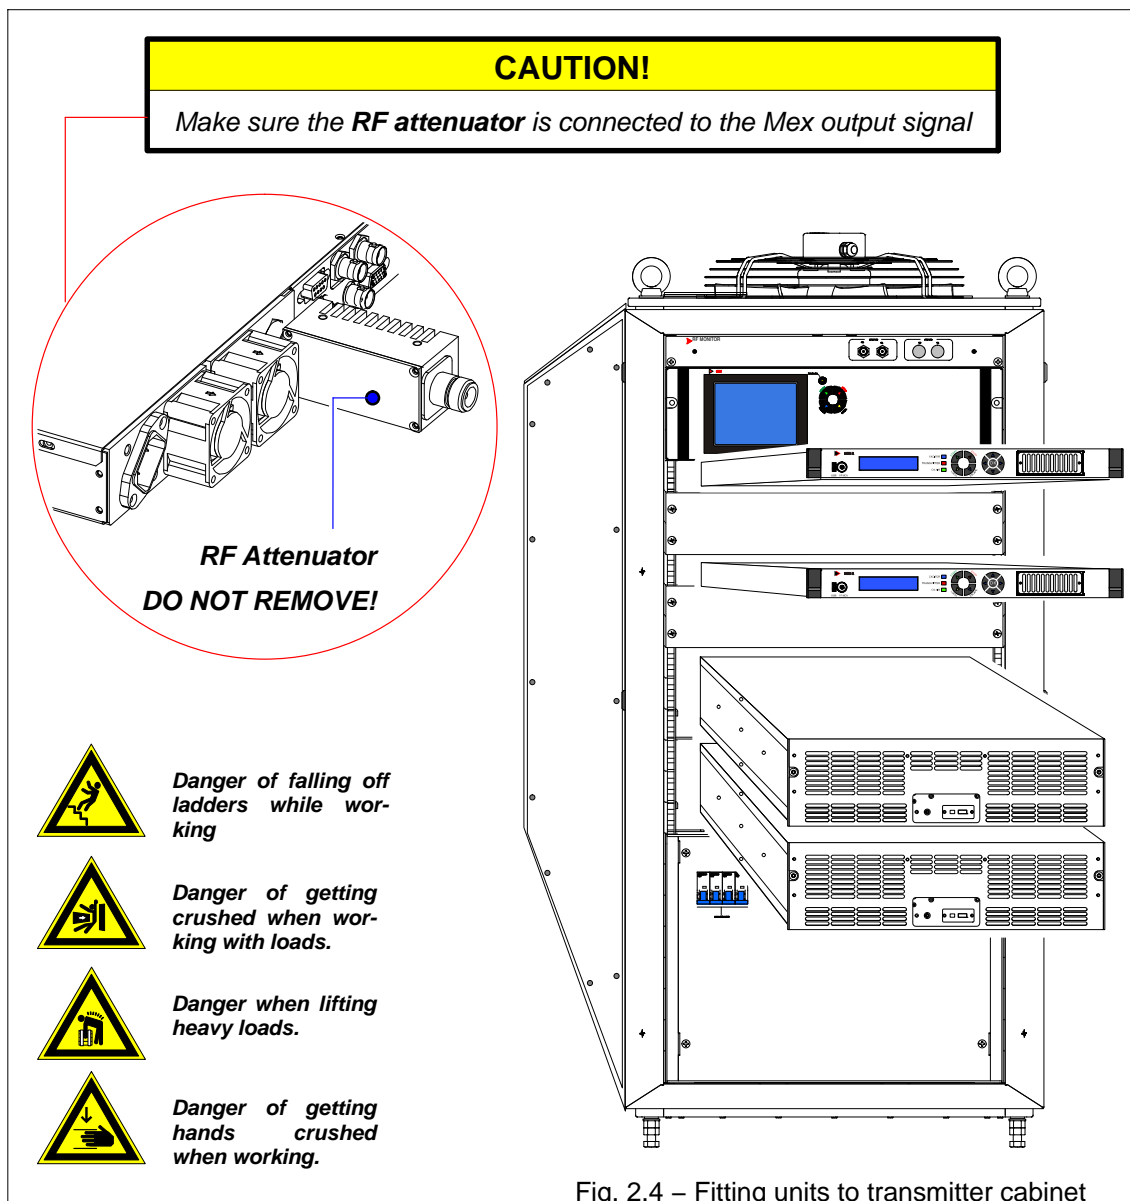

Fig. 2.4 – Fitting units to transmitter cabinet
2.2.3 Fitting units to transmitter cabinet (refer to Fig. 2.4)